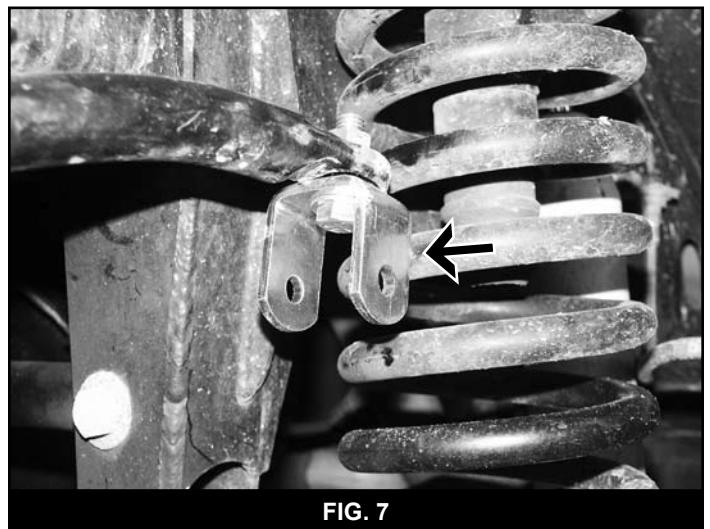

FIG. 7
23. Install the provided upper u-bracket (01325) to the sway bar using with a $\frac{7}{16}$ " x 1-1/2" bolt, nut, $\frac{7}{16}$ " SAE washer and $\frac{7}{16}$ " USS washer (BP 718). Install the bolt up through the u-bracket with an SAE washer into the sway bar. Fasten with the nut and USS washer (Fig 7). Position the bracket so that the thru-holes are parallel to the ball stud on the axle. Torque $\frac{7}{16}$ " hardware to 45 ft-lbs.